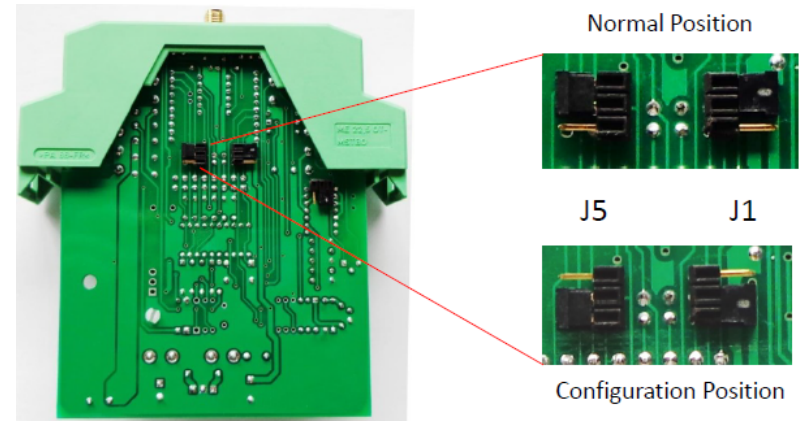

Figure 5.- Radio configuration jumpers
- Next, move the configuration jumpers (J1 and J5) in the mother board to the configuration position (see figure 5).
- Return the configuration Jumpers to its normal position (See Figure 5)